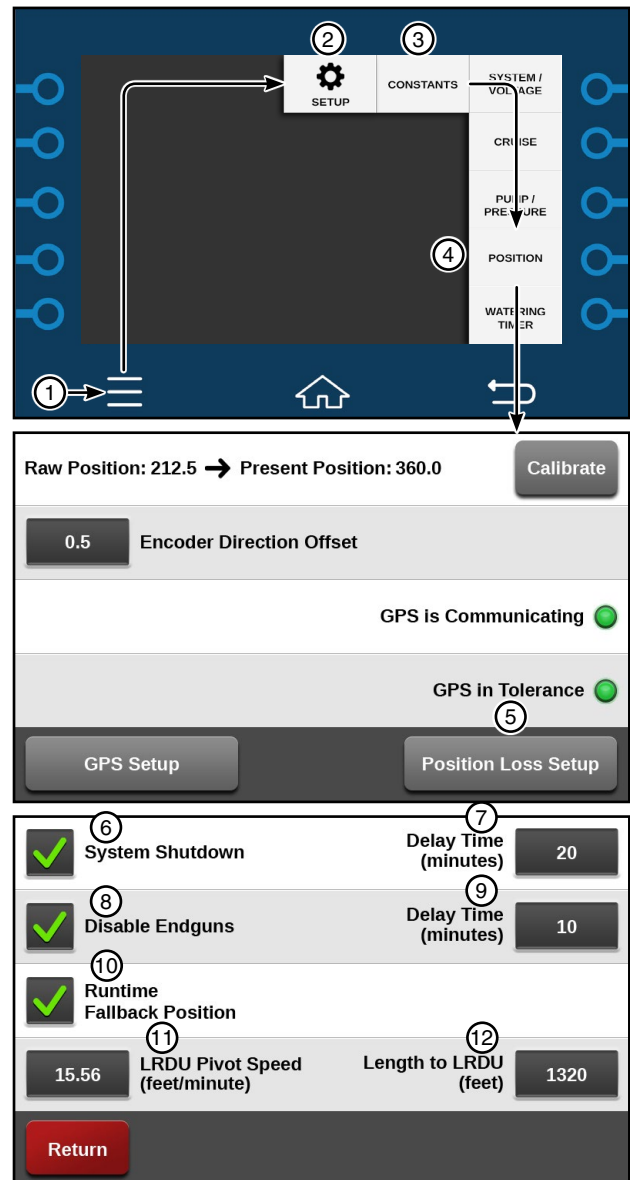

Figure 47-1
1. Check the **System Shutdown** checkbox. See Figure 47-1.
1. Check the **Disable Endguns** checkbox. See Figure 47-1.
1. Check the **Runtime Fallback Position** checkbox. See Figure 47-1.